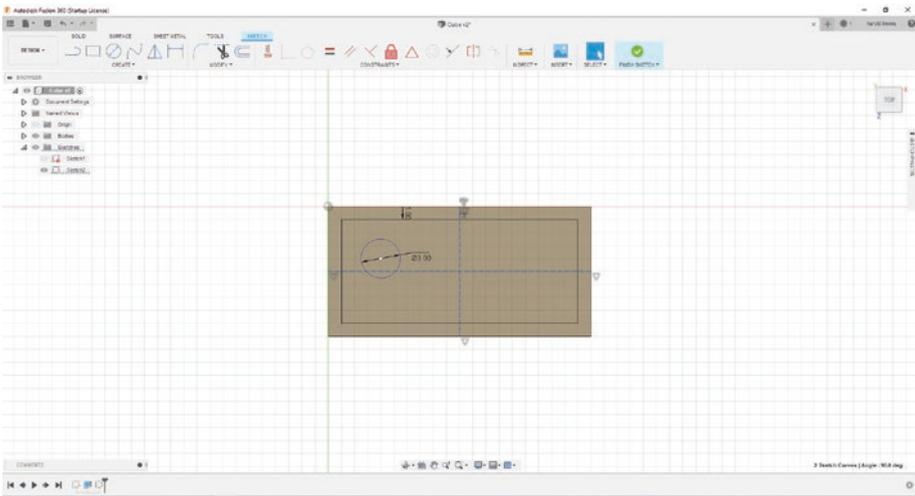

Figure 3-67. Make both the horizontal and vertical center lines construction lines
20. Select the two lines you created and press the “x” key. This will make both of those lines construction lines. See Figure 3-67.